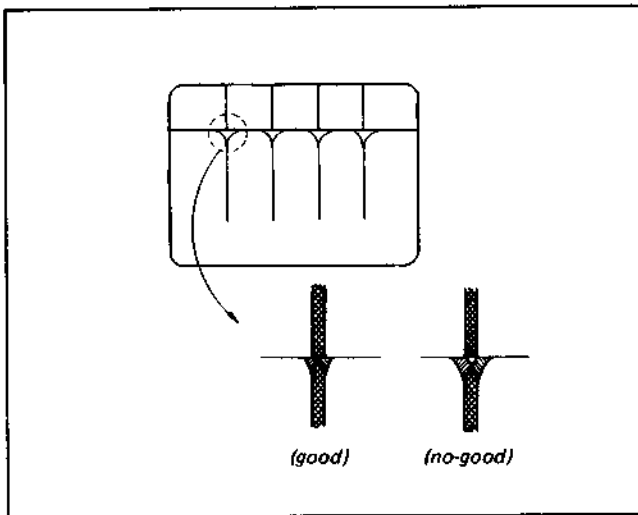
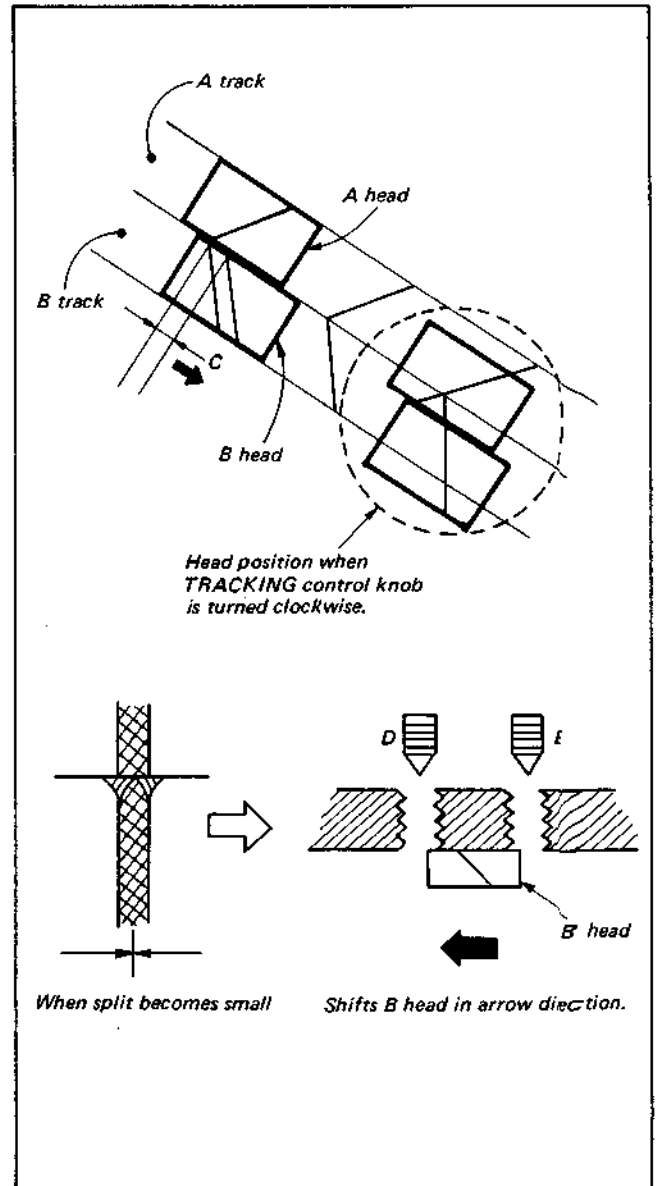
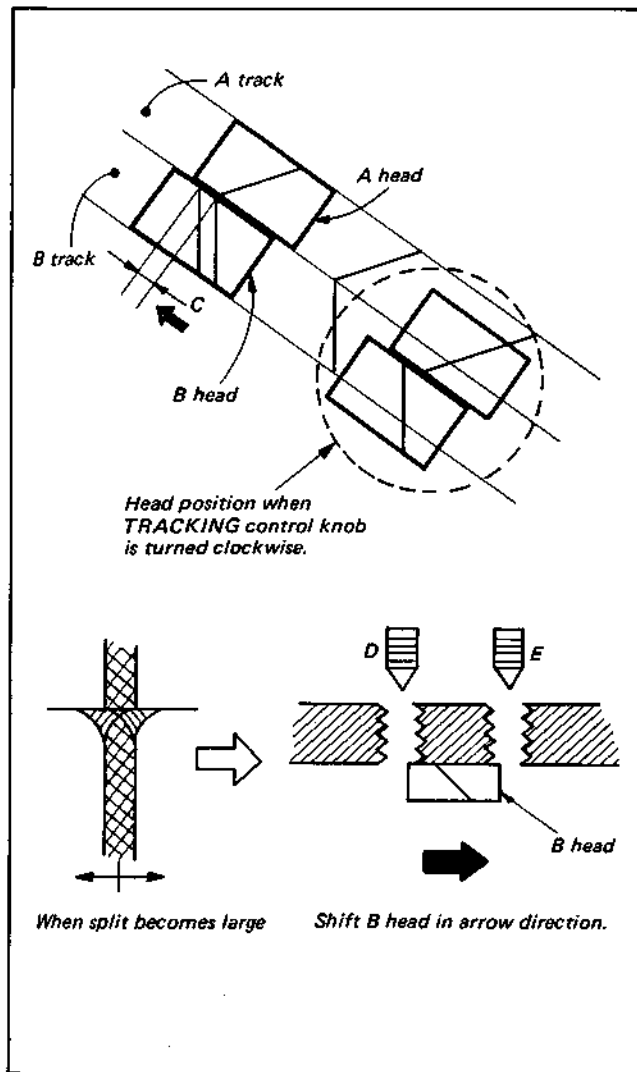

Fig. 3-54.
Fig. 3-56.
Fig. 3-57.
- The judgment of the video head dihedral must be performed in the condition that the monoscope signal segment of the alignment tape (KR5-1H) is played back and the TRACKING control knob is set to the center detent position. (See Fig. 3-54.)
- When the split becomes small for the clockwise turn of the TRACKING control knob, the B head shifts by C in the arrow direction as shown in Fig. 3-56 and is tracing the magnetic pattern on the tape. The adjusting screw in adjustment hole E shown in the figure must be tightened further to shift the B head in the left direction until the good dihedron shown in Fig. 3-54 is obtained. Set the TRACKING control knob to the center detent point.
- (2) When the split becomes large for the clockwise turn of the TRACKING control knob, the B head shifts by C in the arrow direction as shown in Fig. 3-57 and is tracing the magnetic pattern. The adjusting screw in adjustment hole D shown in the figure, must be tightened further to shift the B head in the right direction until the good dihedron shown in Fig. 3-54 is obtained. Set the TRACKING control knob to the center detent point.